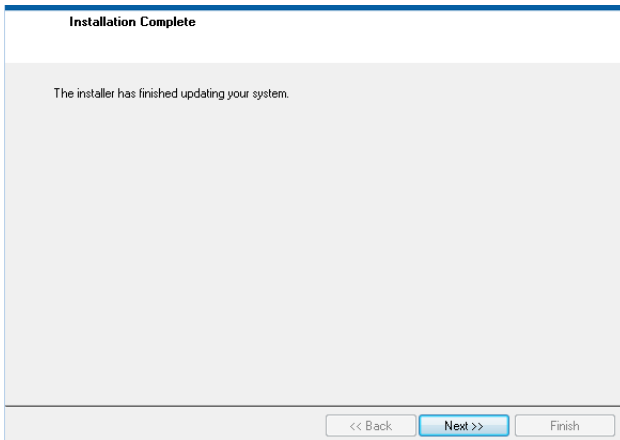

Figure 9. AD7124-4 EVAL+ Software Installation: Indicating When the Installation Is Complete
7. The message in Figure 9 appears when the installation is complete. Click **Next**.